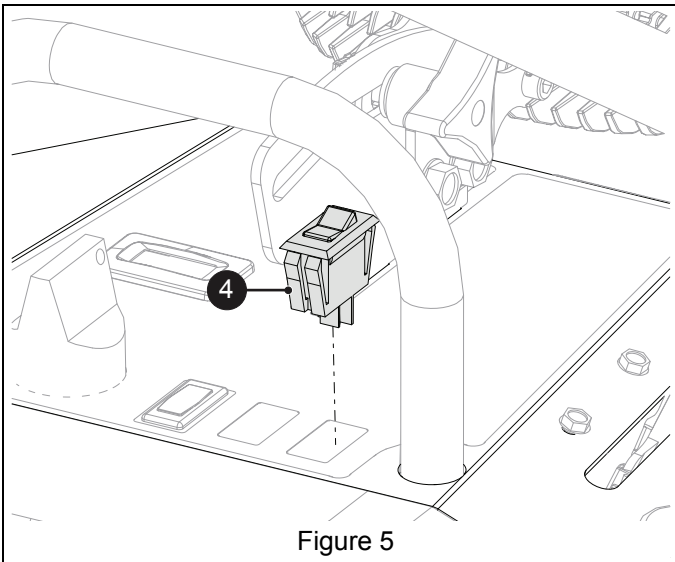

Figure 5
- Using a utility knife or other suitable tool, carefully trim an opening through decal to reveal switch hole, and install rocker switch (item 4). See Figure 5.